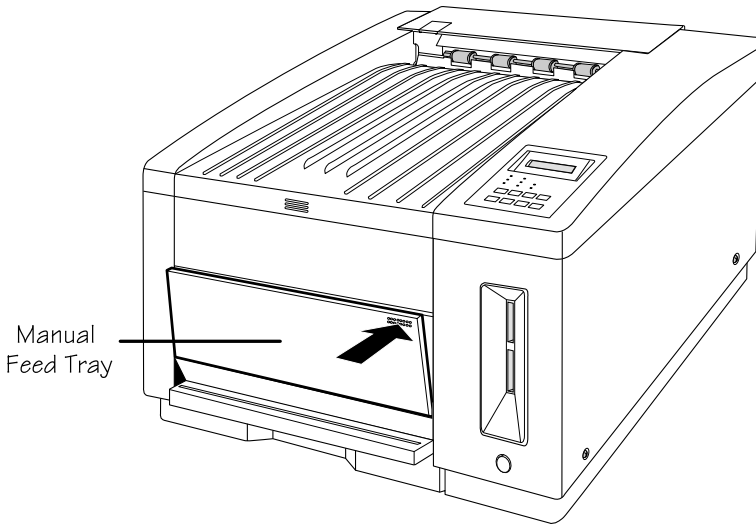

Fig. 2.28 Close the Manual Feed Tray
9. Close the manual feed tray (fig. 2.28).